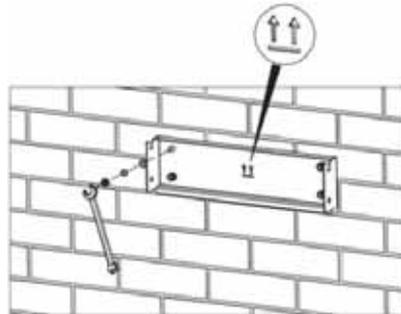

Figure 4.7 Fix the installation bracket
(4) Fix the installation bracket onto the expansion bolts and ensure the installation is firm enough (tightening torque $8.5\text{N}\cdot\text{m}$). As shown in Figure 4.7.